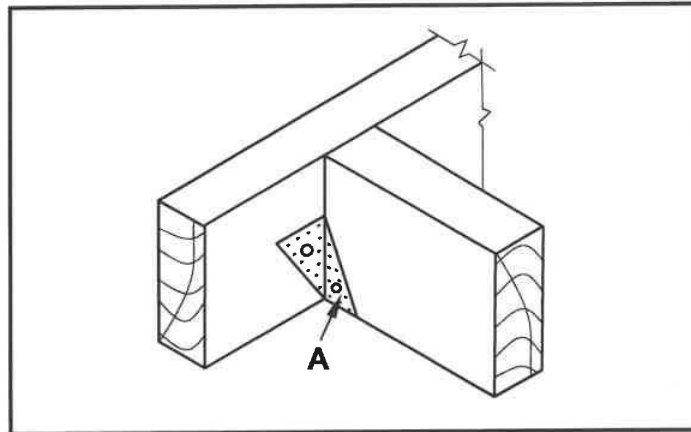

FIGURE 4.4
- 4.4 FIGURE 4.4 below illustrates two roof members that are joined together by means of part **A**.